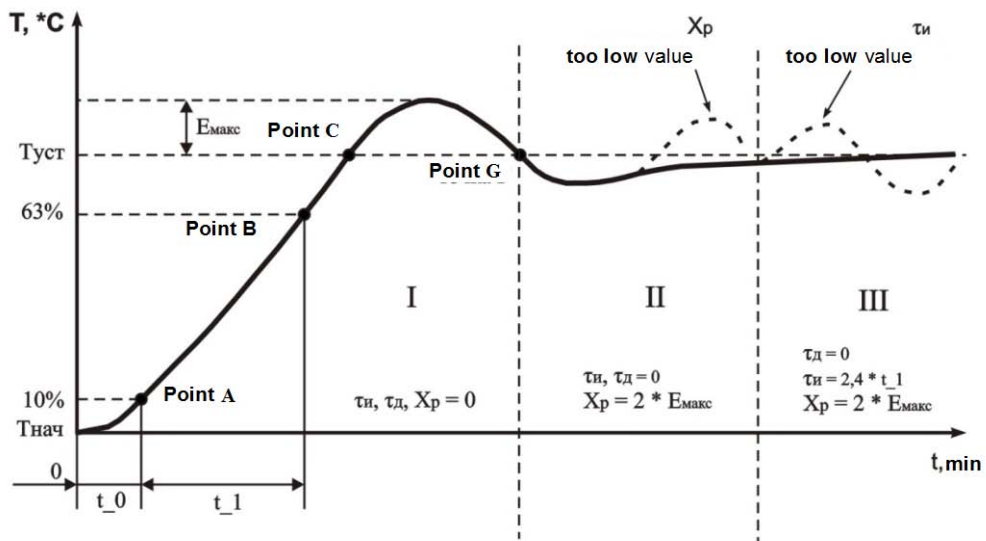

Figure 7.1 - PID regulator manual tuning
After switching off loading relay (period I, point B at figure 7.1) sometime the temperature mechanically will be increase further.
As soon as the control temperature will come down low  $SP(T_{уст})$ , process automatic tuning will be finish (point G figure 7.1) and to display device display continuous lettering "P d".
After passage to mode regulation (at the end of 20 seconds the device automatically pass into mode regulation) output relay of loading will be power on till fail to reach regulation temperature (setting limit)  $T_{уст}$  (period I, point B into figure 7.1)
7.2.5.3.4 Take measure  $t_1$  – time from the moment of temperature increase to 10% (point A at figure 7.1) and to the moment of temperature increase to 63% from the range  $T_{уст} - T_{нач}$  (point B at figure 7.1).
7.2.5.3.6 Take measure of maximum value overshoot between points B and G ( $E_{макс}$ . figure 7.1).
7.2.5.3.7 Fix the value  $X_p = 2 * E_{макс}$  (period II at figure 7.1).